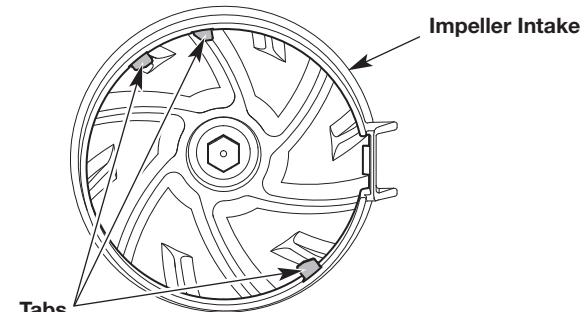

Fig. 3
2. While holding the impeller door open, align the slots on the upper vacuum tube with the tabs in the impeller intake (Fig. 3).